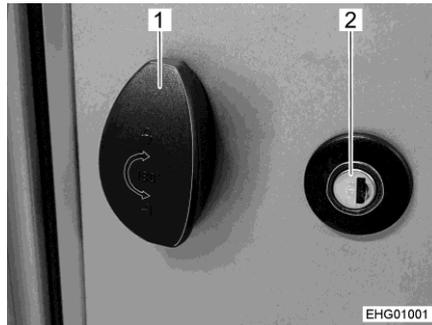

Fig. 54 Flap lock with rotary handle
- Insert key into locking cylinder (Fig. 54,2) and turn a quarter turn. The flap lock is unlatched.
- Pull the rotary handle (Fig. 54,1) out and turn it 180° in an anticlockwise direction. The external flap is open.
- Turn the rotary handle (Fig. 54,1) 180° in a clockwise direction.
- Insert key into locking cylinder (Fig. 54,2) and turn a quarter turn. The flap lock is locked.